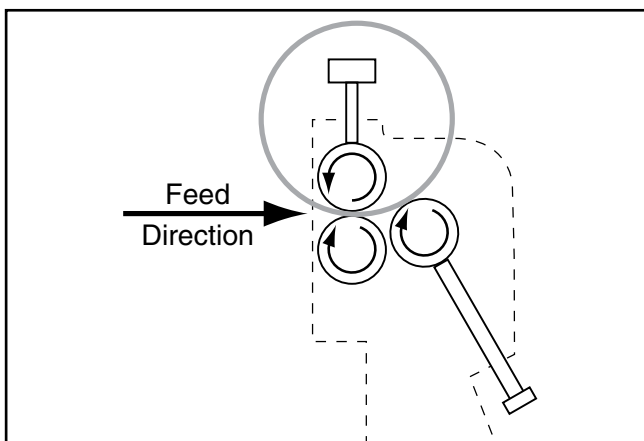

Figure 24. Cylinder completed.
- Repeat **Steps 4–6** until you have produced the desired cylinder (see **Figure 24**).